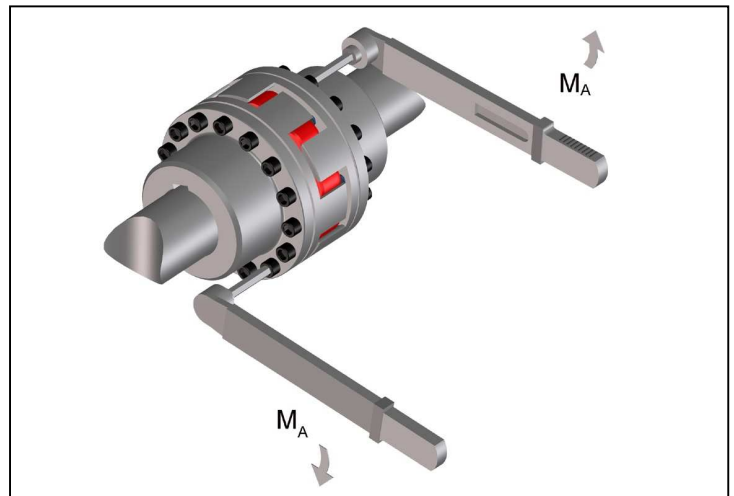

Fig. 11
- Tighten the screws to the proper torque M_A specified in table 7 (Fig. 11).